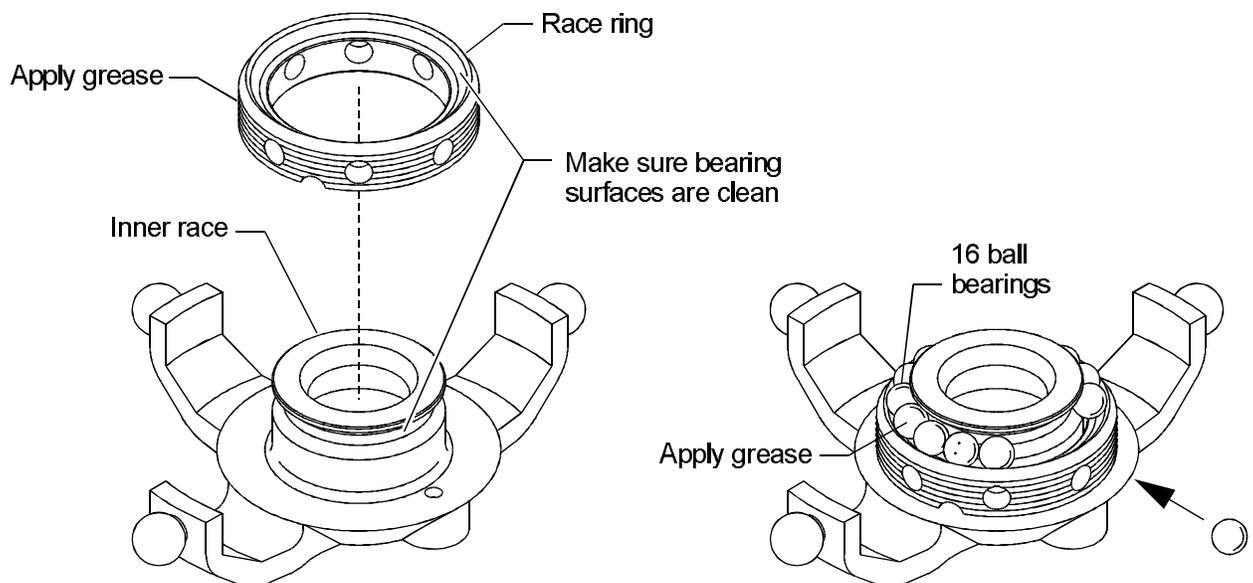

Figure 10-1.
- ❑ 2. Slip the race ring over the inner race with the notched end facing down as shown in Fig. 10-1. Insert sixteen (16) steel ball bearings into the track formed by the inner race and race ring. The final balls may require a little force to snap into place.